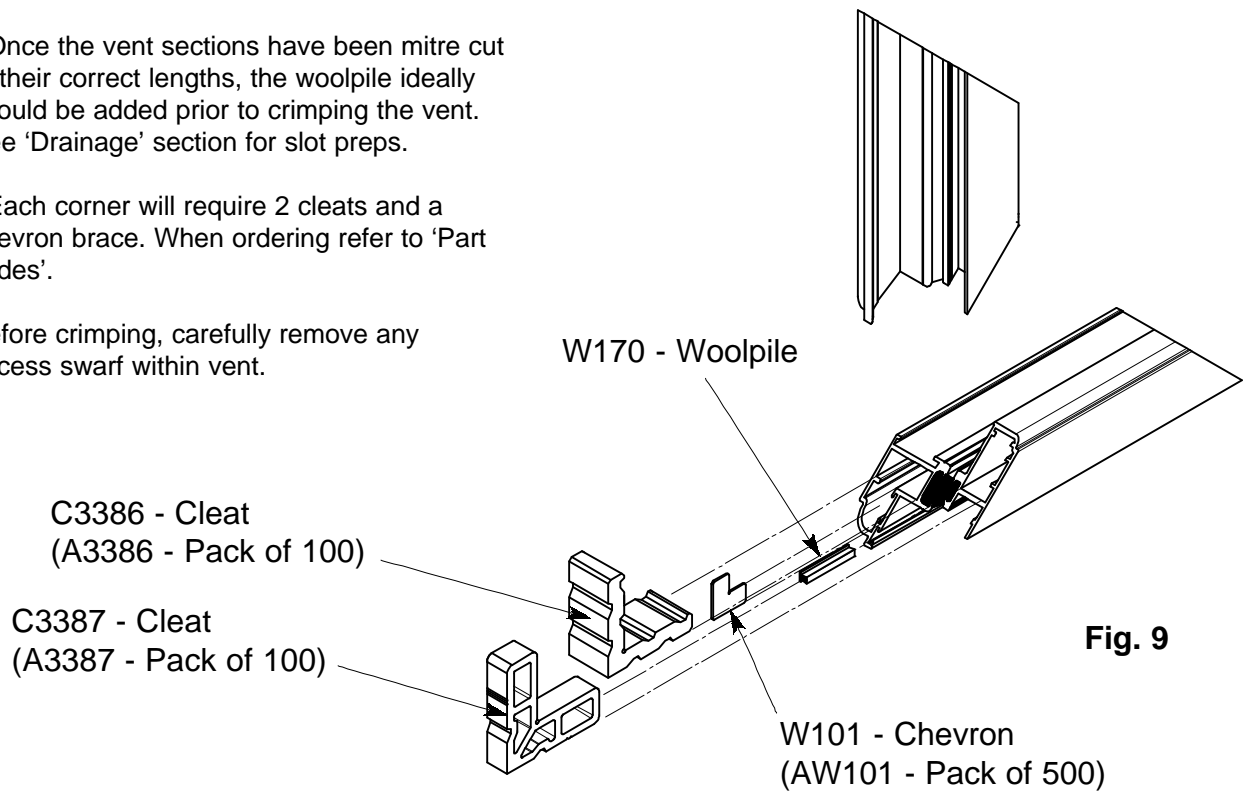

Fig. 9
- Once the vent sections have been mitre cut to their correct lengths, the woolpile ideally should be added prior to crimping the vent. See figure 9. Before crimping, carefully remove any excess swarf within vent. See 'Drainage' section for preparation slots.